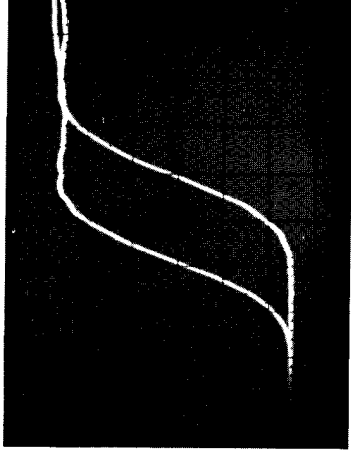

Figure 9. Transition Time Measurement
12. Adjust time-interval STOP **18** to place 90% point on same vertical graticule line. (See figure 9.)